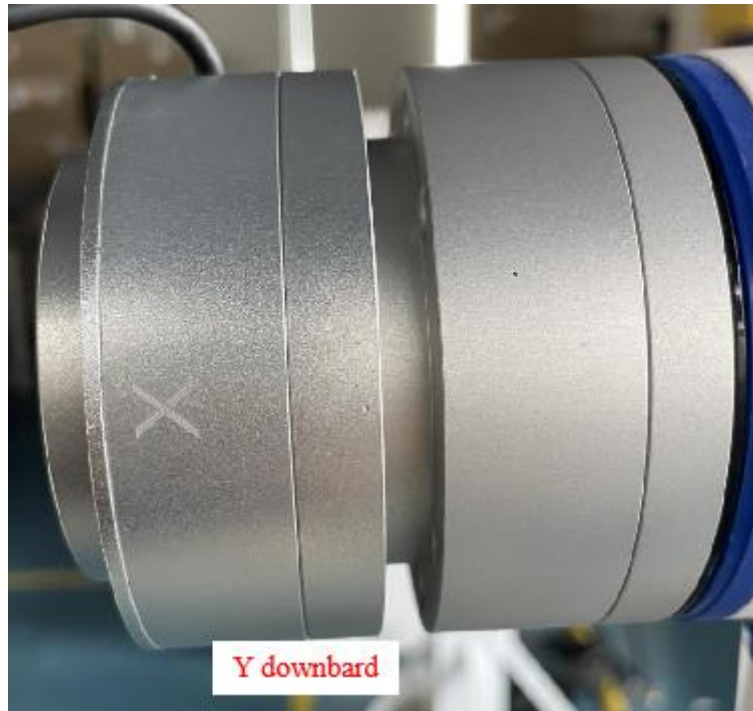

Figure 4.3 Y+ at the bottom
- Step 3** Jog or drag the robot to make the Y+ at the bottom of the sensor, as shown in Figure 4.3.